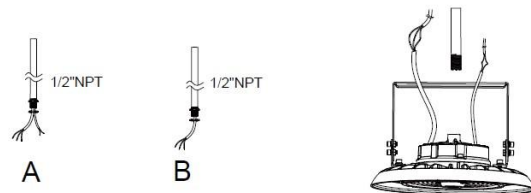

Figure 7
1. Unscrew the nuts on 1/2" NPT (supplied by others) (Figure 7).